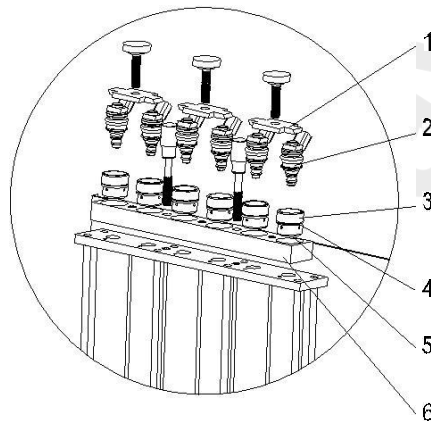

Fig. 06
- 1) Choose proper couplers for side-supply injectors(3) and proper O-rings, and mount them together,(Remember to apply a little lubricating grease).
- 3) Mount the cross plate(1) and tighten it with bolts.
- 4) Mount the fuel distributor and injectors onto the fuel distributor supporter, and tighten them with two raffle screws(black). See Fig. 06.